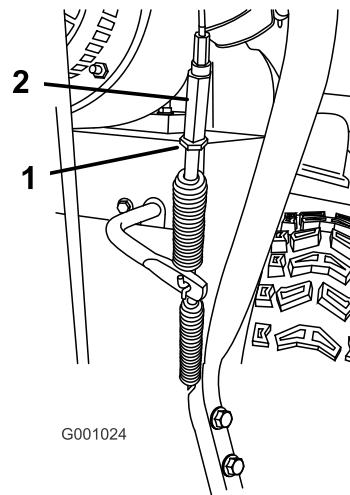

Figure 37
- Loosen the jam nut (Figure 37).
- Loosen or tighten the turnbuckle that adjusts the tension on the cable (Figure 37).